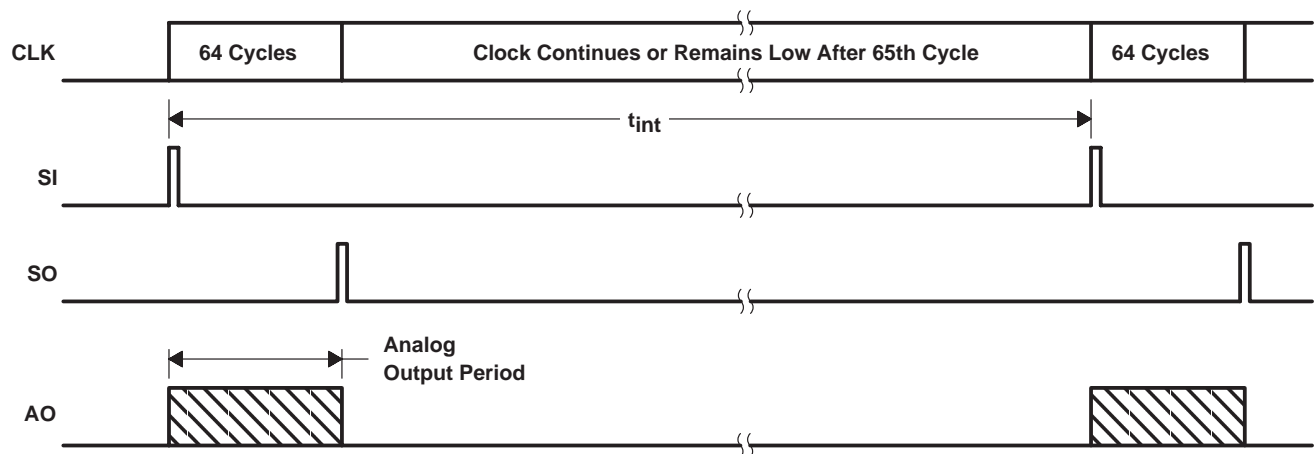

Figure 1. Timing Waveforms
Operation of the 64 × 1 array sensor consists of two time periods: an integration period during which charge is accumulated in the pixels and an output period during which signals are transferred to the output. The integration period is defined by the interval between serial-input (SI) pulses and includes the output period (see Figure 1). The required length of the integration period depends upon the amount of incident light and the desired output signal level.
The output period is initiated by the presence of the SI pulse coincident with a rising edge of the clock (Figures 1 and 2). The output voltage corresponds to the level of the first pixel after settling time (t_s) and remains constant for a valid time (t_v). A voltage corresponding to each succeeding pixel is available at each rising edge of the clock. The output period ends on the rising edge of the 65th clock cycle, at which time the output assumes a high-impedance state. The 65th clock cycle terminates the output of the last pixel and clears the shift register in preparation for the next SI pulse. To achieve minimum integration time, the SI pulse may be present on the 66th rising edge of the clock to immediately reinstate the output phase. Once the output period is initiated by an SI pulse, the clock must be allowed to complete 65 positive-going transitions in order to reset the internal logic to a known state.